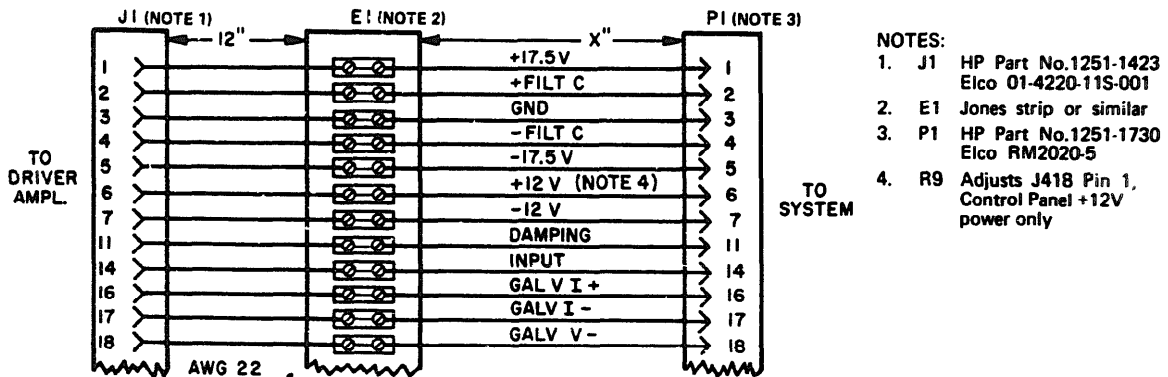

Figure 5-1. Test Cable Schematic Diagram
5-7 To facilitate checking the 7700-02B Driver Amplifiers and their power supply, the test cable shown in Figure 5-1 should be fabricated using 12-conductor cable with No. 22 awg (or larger) in-
- b. Connect test cable described in Paragraph 5-7 (Figure 5-1) between driver amplifier and empty receptacle.